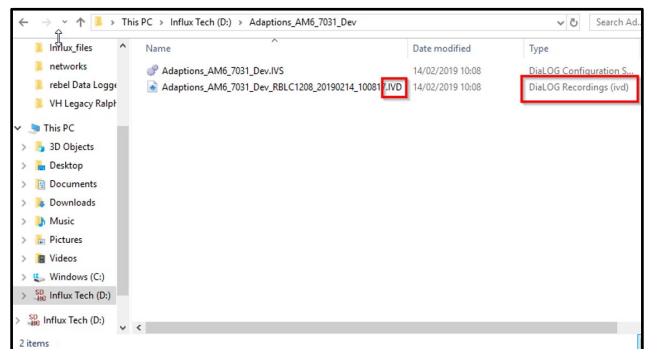

Figure 6
5. Copy the IVD files onto your laptop (refer to Figure 6).